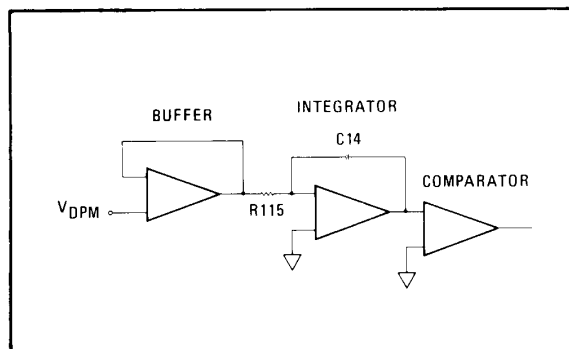

Figure 8-22. Equivalent Analog Circuitry Segment 4.
**Segment 4**—This segment is an up-going ramp cycle with the input voltage  $V_{DPM}$  as the input to the integrator. Figure 8-22 shows the equivalent configuration of the analog circuitry of A2U1. The actual configuration depends on the polarity of the input voltage during the previous conversion cycle.